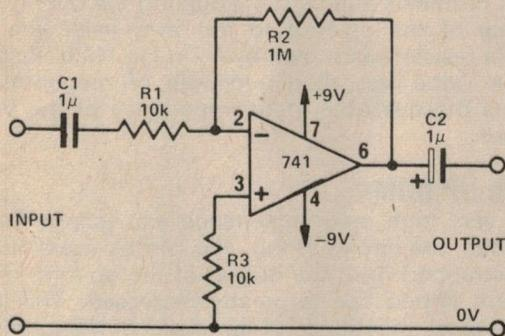

Fig. 9b $\times 100$ inverting a.c. amplifier.
a.c. use by simply wiring blocking capacitors in series with its input and output terminals, as shown in the $\times 100$ inverting a.c. amplifier circuit of Fig. 9b.